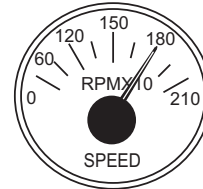

Figure 53. Engine Tachometer Gauge
11. The **tachometer** (Figure 53) will indicate the speed of the engine in **RPM**. Under normal operating conditions this speed is approximately 1,800 rpm.